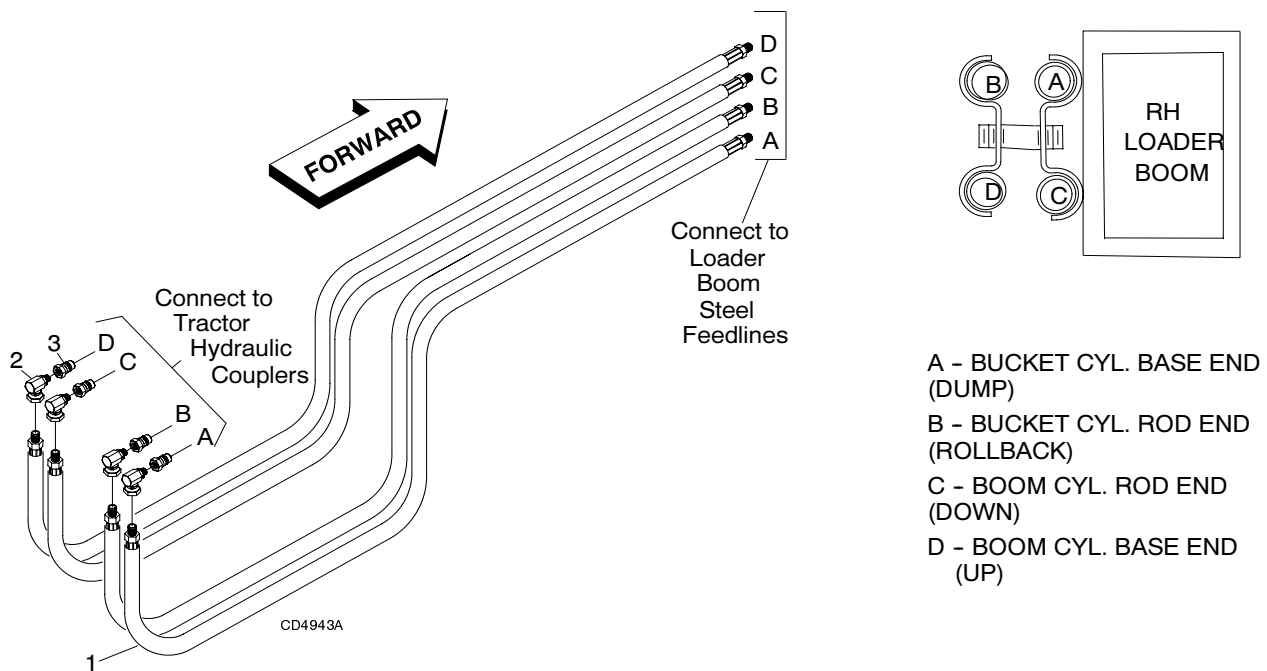

Figure 6 #57923 Hose Kit & Loader Feedline Connections
2. Connect loader supply hoses to loader steel feedlines as shown in Figure 6.